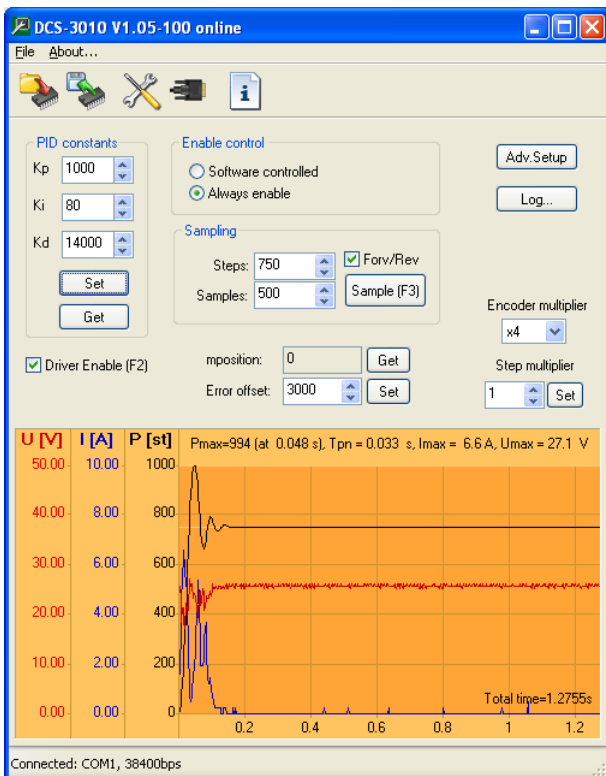

Figure 10.3
STEP 3: Gradually increase the constants K_p and K_i until the response is similar to Figure 10.3. It should be noted here that the K_i constant is much smaller compared to the other two constants.